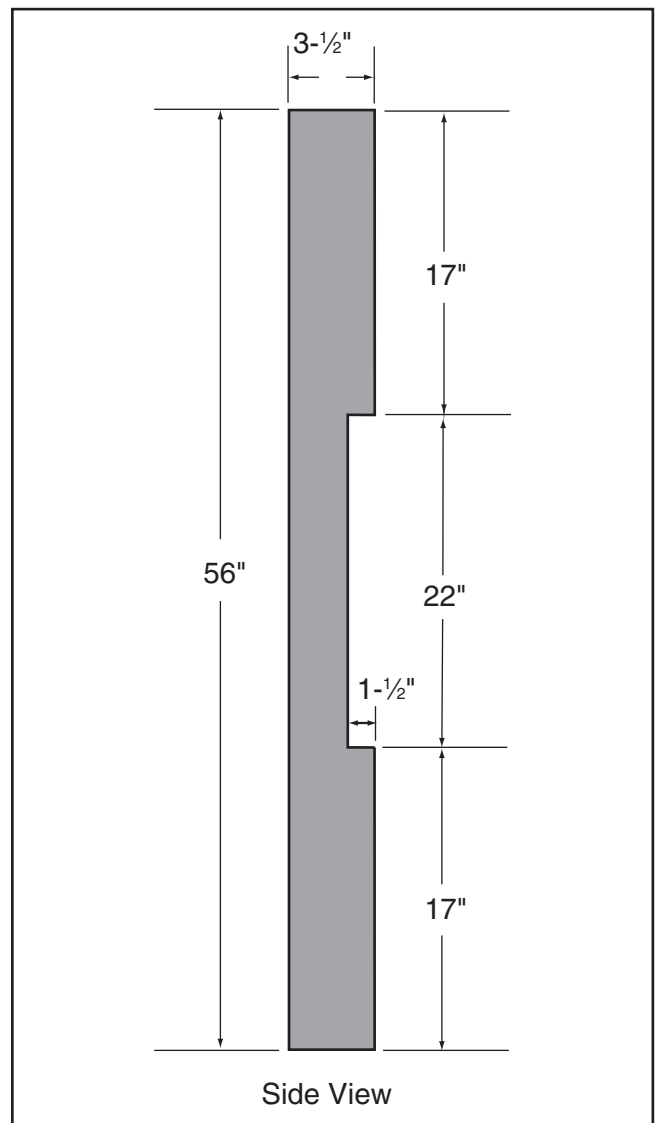

Figure 113. Dimensions of coplanarity gauge.
1. Make the "Coplanarity Gauge" shown in **Figure 113**.